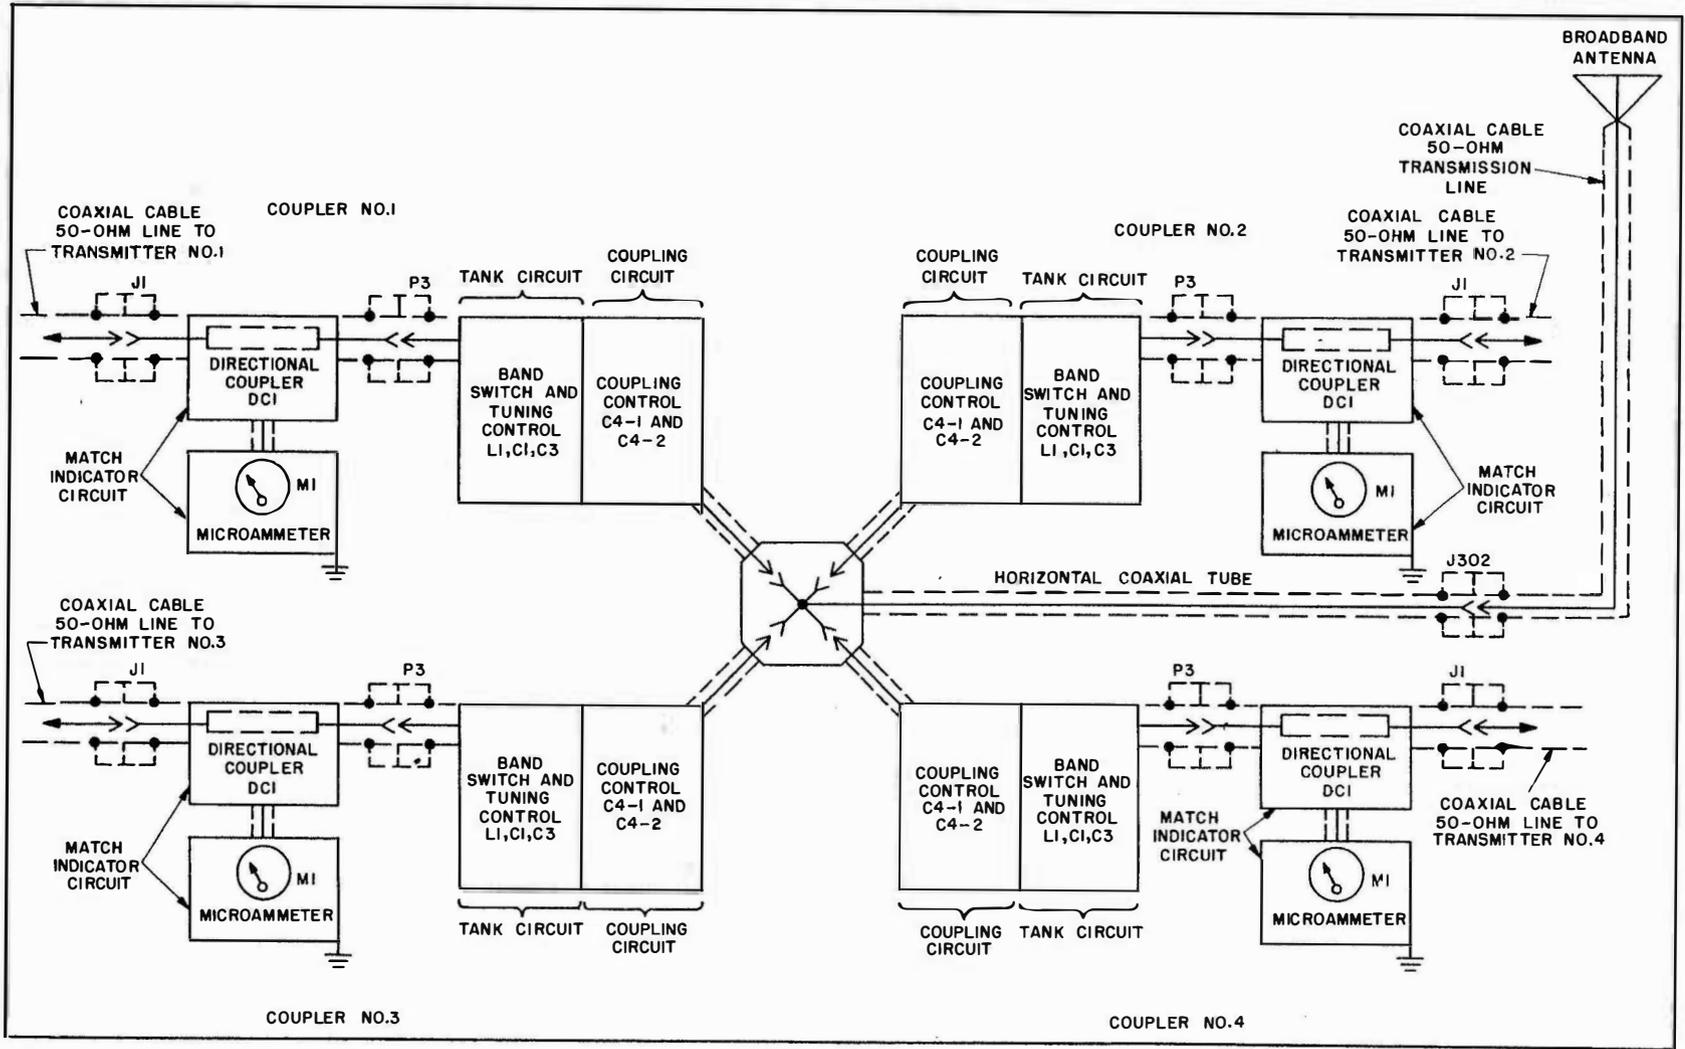

Figure 2-1. Antenna Coupler Group AN/SRA-16, Functional Block Diagram
b. Description of Circuits.—Figure 2-1 is a functional block diagram of Antenna Coupler Group AN/SRA-16. The blower assembly and fuse panel are not shown since they do not effect the function of the coupler group. They will, however, be discussed where applicable.
(1) COUPLER NO. 1.—The four antenna couplers are similar except for location of plug-in connections, and therefore, are not directly interchangeable. Their